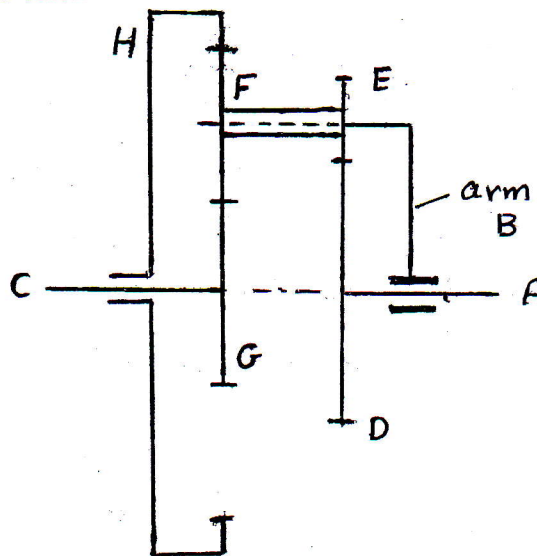

Fig. 2
B - In the epicyclic gear train shown in Fig.2, The wheel D is held stationary by the shaft A and the arm B is rotated at 120 rpm. The wheel E (20 teeth) and F (40 teeth) are fixed together and rotate freely on the pin carried by the arm. The wheel G (30 teeth) is rigidly attached to the shaft C. The planet wheel F mesh with the annular gear H that rotate freely independently on the shaft C. Find the speed of the shaft C and the speed of the annular gear H when the shaft A is held stationary. (12)